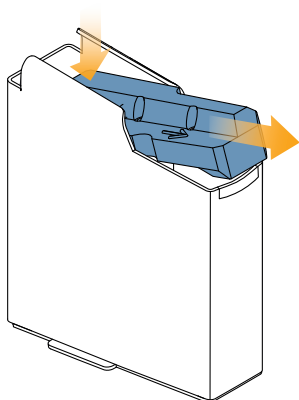

Fig 3-5
- Press down and push forward on the rear of the magazine follower. The front lug on the follower should clear the body (see Fig 3-5).